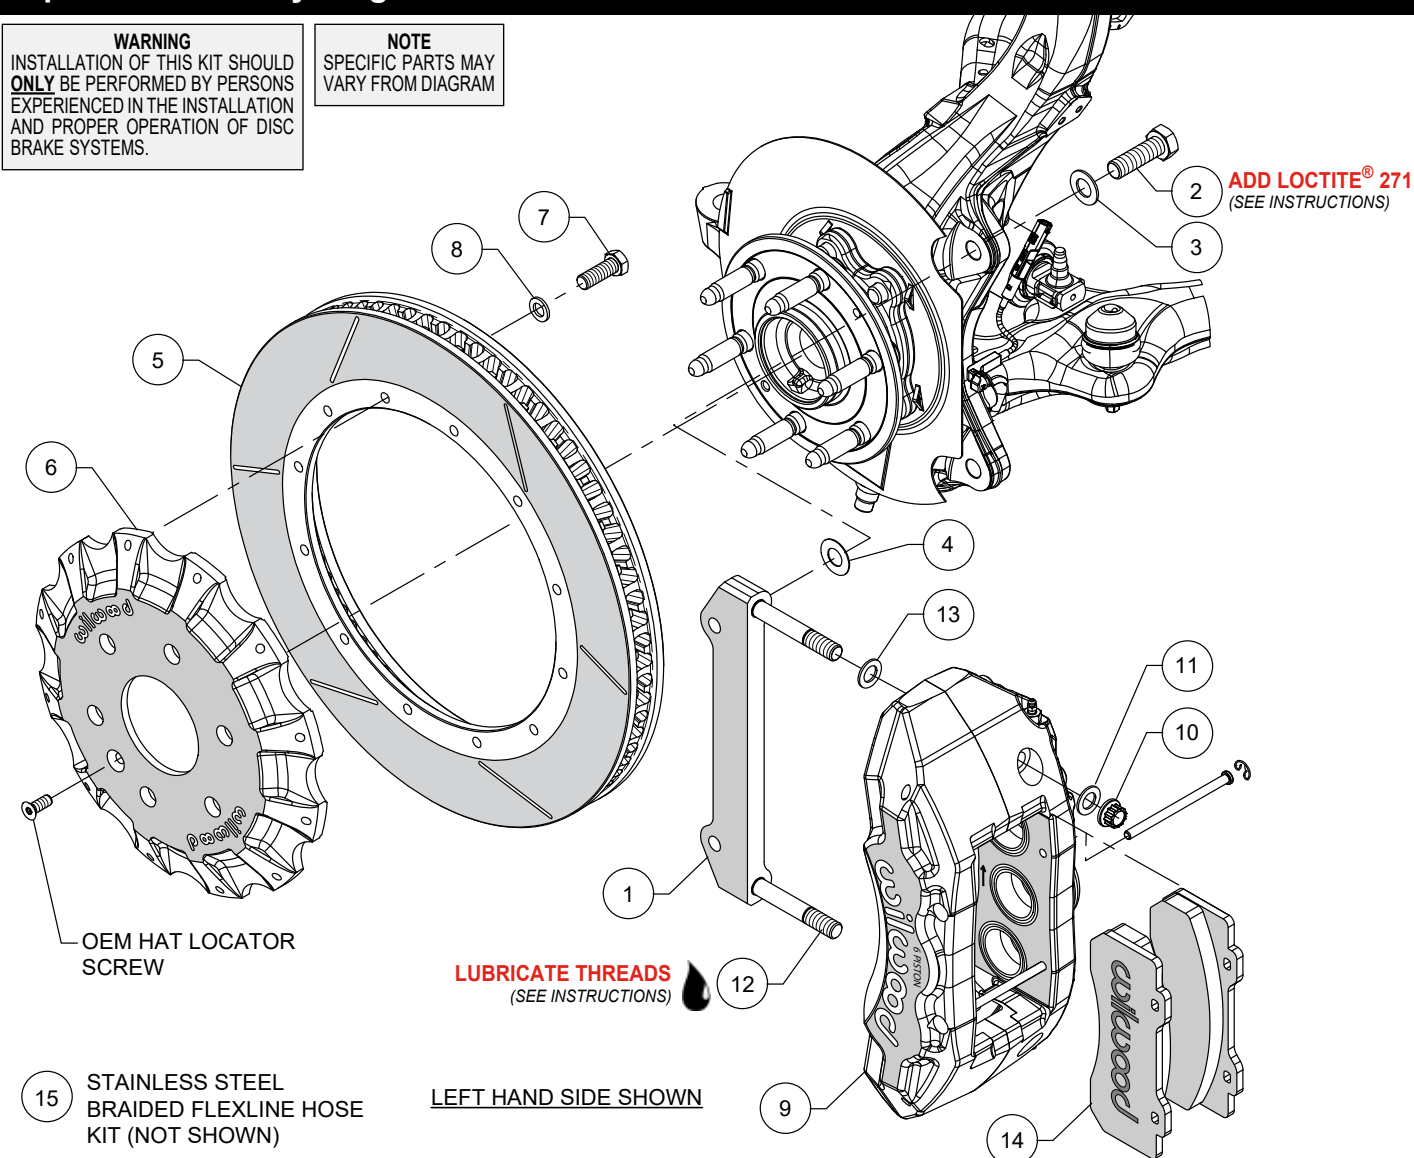
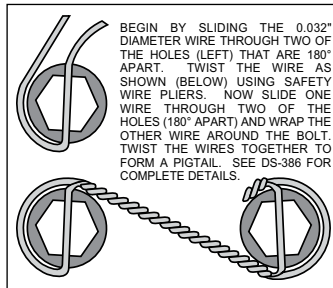

Figure 1. Typical Installation Configuration
Figure 3. Safety Wire Diagram
NOTE: Numbers in parenthesis refer to the parts list and Figure 1 on the preceding pages.
- The caliper mount bracket (1) should initially be installed with clean, dry threads on the mounting bolts. Orient the bracket as shown in Figure 1, and install using bolts (2) and washers (3). Initially place one .029 thick shim (4) on each bolt between the bracket and upright, Figure 1. Temporarily tighten the mounting bolts.
- Orient the rotor (5) and the hat (6) as shown in Figure 1 and Photo 2. Attach rotor to hat using bolts (7) and washers (8). Apply red *Loctite*® 271 to the bolt threads and torque to 25 ft-lbs using a criss-cross pattern. For an added measure of security, the bolts may be safety wired using standard 0.032 inch diameter stainless steel safety wire as shown in Figure 3. Please refer to Wilwood's data sheet DS-386 (available at www.wilwood.com/Pdf/DataSheets/ds386.pdf) for complete safety wire installation instructions.
- NOTE:** This kit contains distinct right and left hand calipers that must be mounted in a specific direction, as described below. Lubricate the caliper mounting studs (12) with lightweight oil. Initially place one .032" thick shim (13) on each stud as shown in Figure 1 and Photo 3. Mount the caliper (9) onto the bracket (1) using lock nuts (10) and washers (11), Figure 1. Ensure that the caliper is mounted so that the largest pistons are at the rotor exit end of the caliper, in relation to the direction of rotor rotation. Temporarily tighten the lock nuts and view the rotor through the top opening of the caliper. The rotor should be centered in the caliper, Photo 4. If not, adjust by adding or subtracting shims (4) between the bracket and the upright. Always use the same amount of shims on each of the two mounting bolts. Once the caliper alignment is correct, remove the bracket mounting bolts (2) one at a time, apply red *Loctite*® 271 to the threads, and torque to 77 ft-lb.
- Remove the two pad retaining pins from the caliper by carefully popping out the pin retaining clips and sliding out the pins. Insert the brake pads (14) into the caliper, with the friction material facing the rotor, as shown in Photo 5 and secure the brake pads in place with the pad retaining pins and clips, Photo 6. Check that